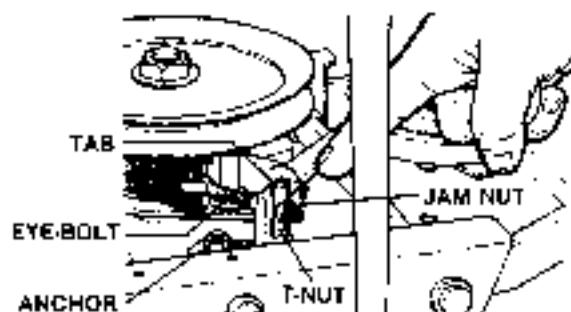

FIG. 11 - BLADE BRAKE ADJUSTMENT
As the brake band wears, the BLADE lever will gradually stop further rearward in the slot of the BELT COVER. BRAKE adjustment is required when the lever stops  $1/2"$  from the top of the belt cover. The adjusting point is shown in FIG. 11. With the engine stopped, the adjustment is made as follows:
**STEP 2:** While holding the BLADE lever firmly in the rearward position, loosen the jam-nut on the end of the eye bolt (refer to FIG. 11).